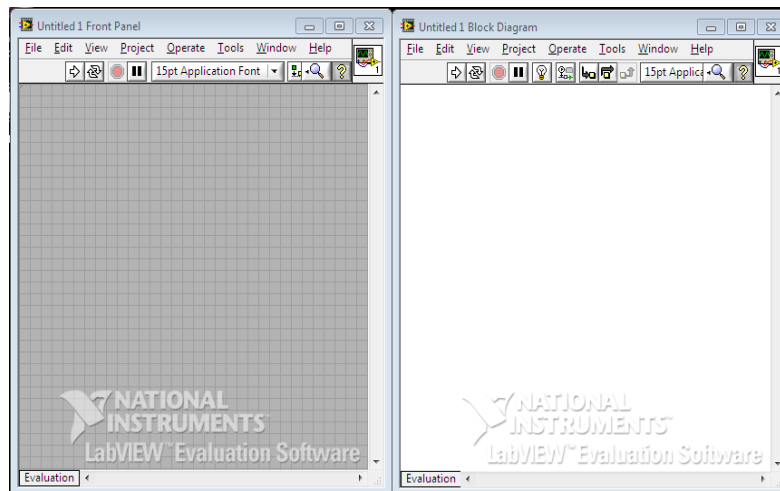

Figure 11 - VI front panel and block diagram
- Then you will get front panel and block diagram windows, as shown in fig:11